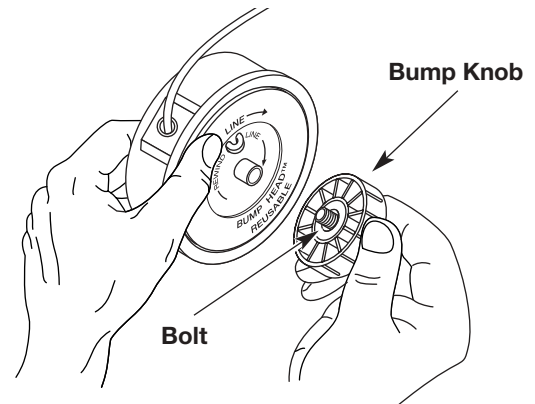

Fig. 12
1. Hold the outer spool with one hand and unscrew the bump knob **counterclockwise** (Fig. 12). Inspect the bolt inside the bump knob to make sure it moves freely. Replace the bump knob if damaged.